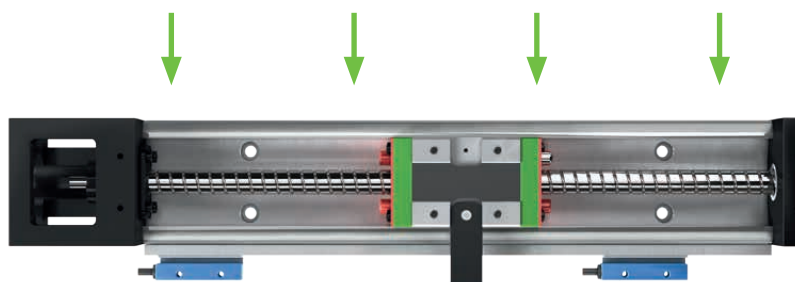

Fig. 6.1 Reference edge
- ▶ Set the KK linear axis firmly against the reference edge (Fig. 6.1)